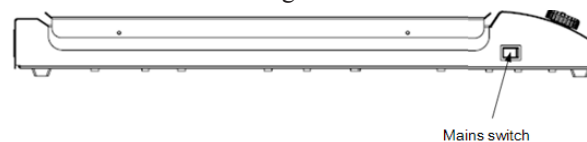

Figure 3
- Plug in the power cable, ensure the power be ON (Figure 3)